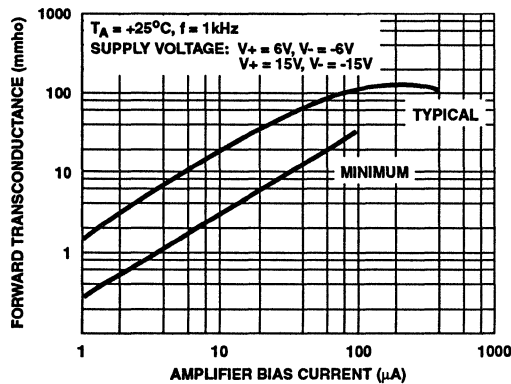

FIGURE 11. FORWARD TRANSCONDUCTANCE vs AMPLIFIER BIAS CURRENT
2. **Selection of Suitable Amplifier Bias Current.** The amplifier bias current is selected from the minimum value curve of transconductance (Figure 11) to assure that the amplifier will provide sufficient gain. For the required g_{21} of 5.5mmho an amplifier bias current I_{ABC} of $20\mu A$ is suitable.